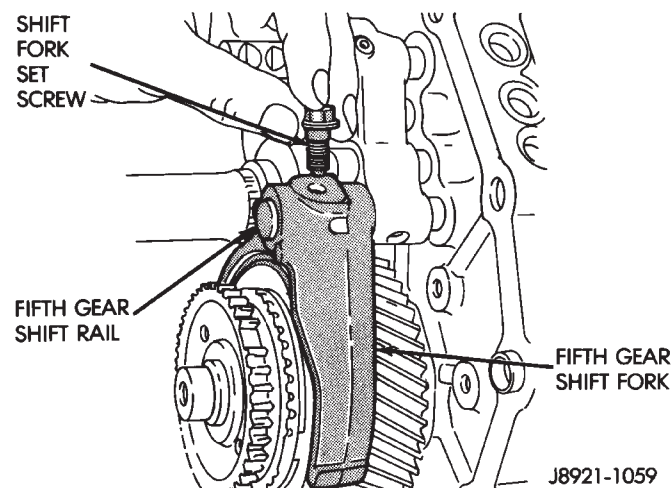
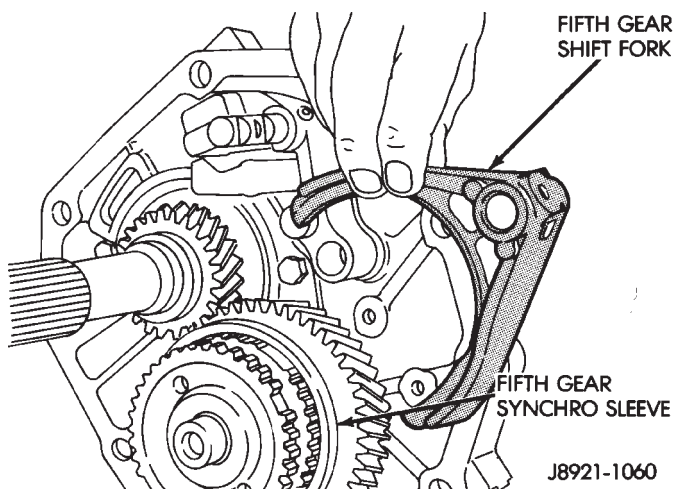

Fig. 29 Removing Fifth Gear Fork Set Screw
Fig. 30 Removing Fifth Gear Shift Fork
(8) Remove fifth gear shift fork set screw (Fig. 29).
(9) Move fifth gear shift rail forward until it clears shift fork.
(10) Remove fifth gear shift fork from synchro sleeve (Fig. 30).